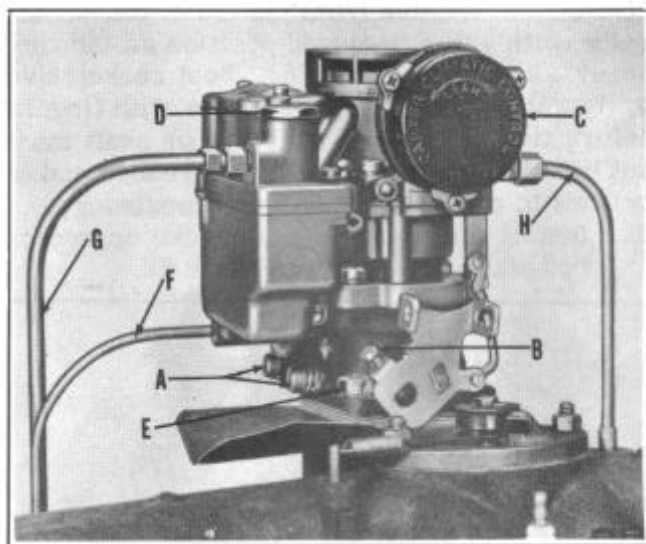

FIGURE 96
1. Install carburetor and install nuts and lock washers on the carburetor mounting studs (E), Figures 96 and 97